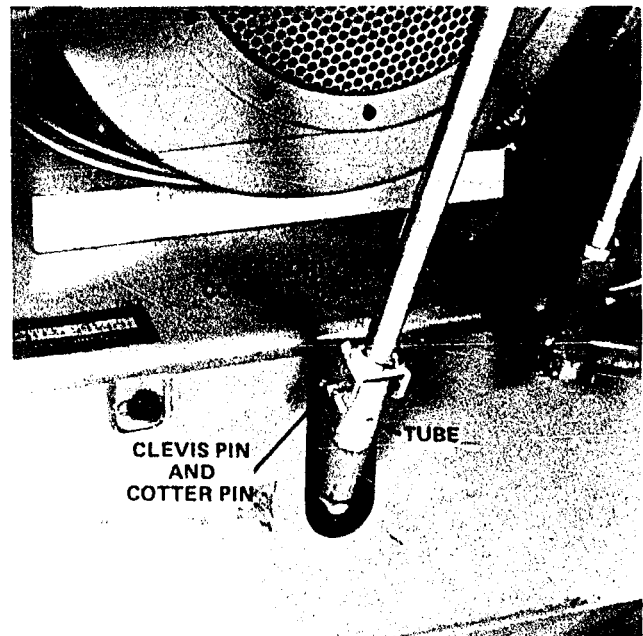

Figure 7
4. Line up holes in U-shaped end of control rod with hole in tube at center of traction unit (Fig. 7). Next, secure parts together with clevis pin and cotter pin (Fig. 7).